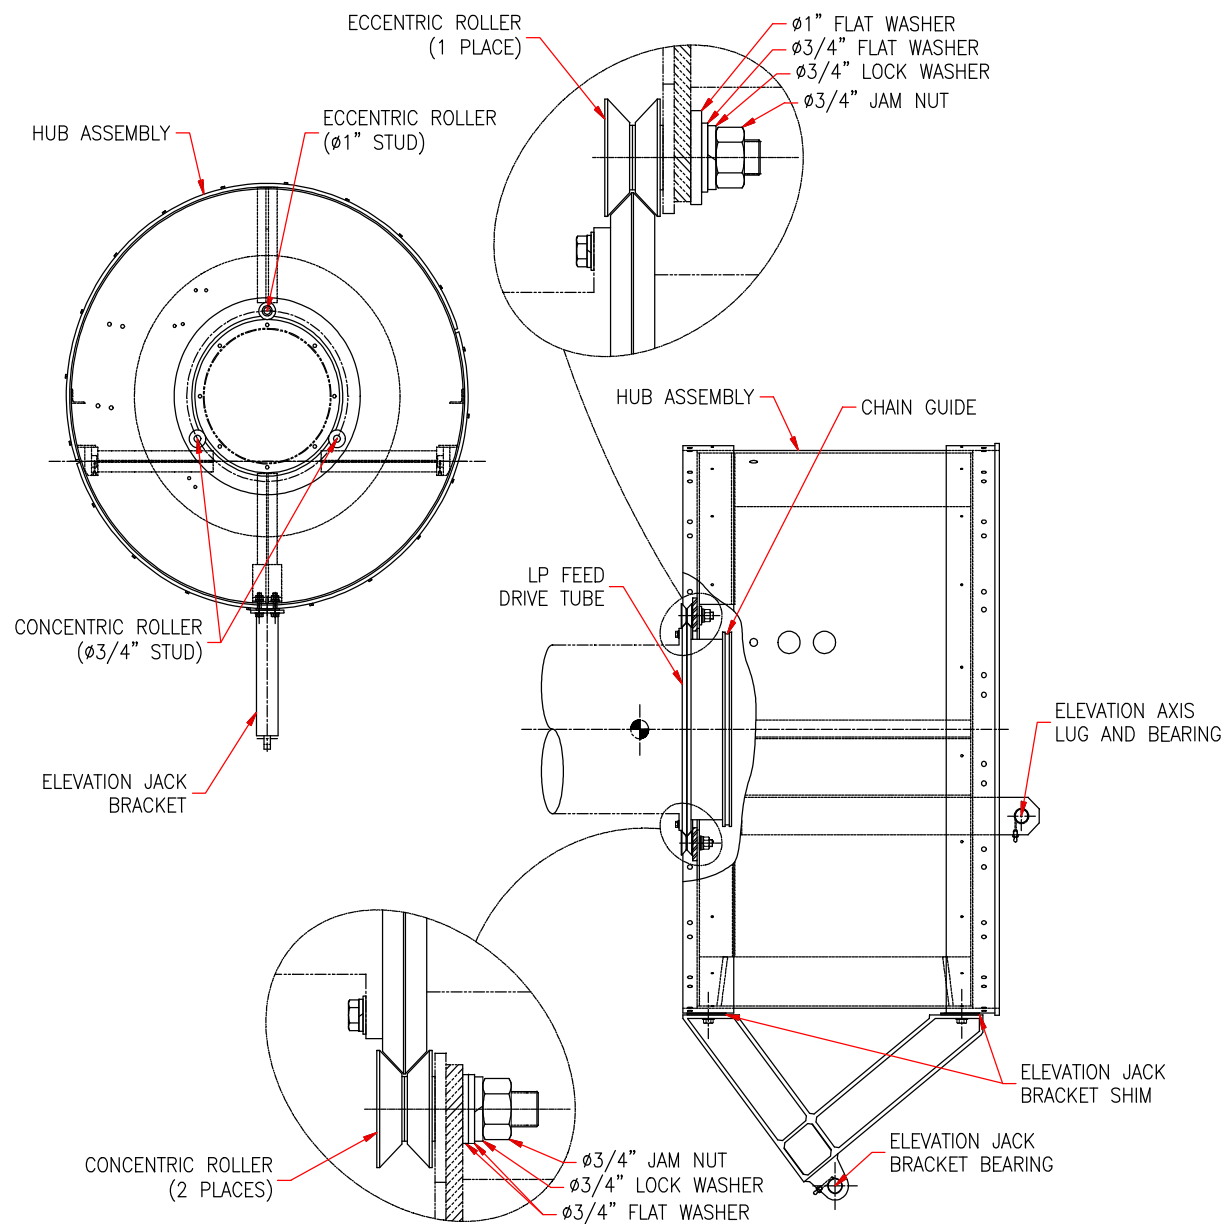

Figure 2. LP Feed Interface Installation
Note: Use the following procedure for a linearly polarized (LP) feed installation. Refer to Figure 2.
- Step 1.** Clean and lubricate the bearings on the elevation axis lugs and elevation jack bracket on the hub (see Figure 2).